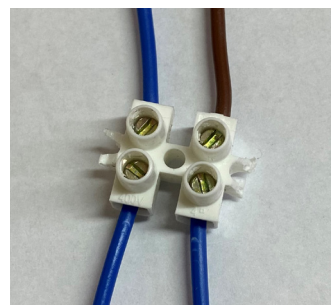

fig.5
Neutral Wiring (with safety brake) - (1) connect inside case neutral wire power (blue) to blue wire safety brake, (2) connect brown wire safety brake to neutral wire motor (blue) (**fig.5**).